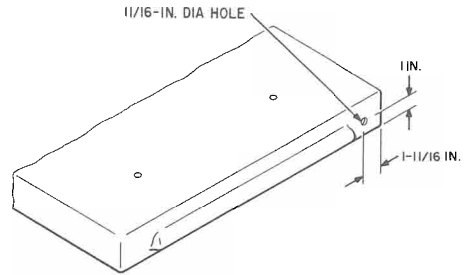

Fig. 6—Locating Hole in Roof of KS-16797 Booth for Light Cell
- The light cell is mounted in the right-front corner of the roof. Some booths have a plug or knockout for this purpose. If a plug or knockout does not exist, drill one 11/16-inch-diameter hole in the roof as shown in Fig. 6. A Greenlee knockout punch should be used if available.